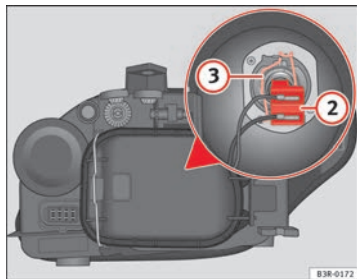

Fig. 195 Dipped beam headlights
- Pull the connector ⇒ fig. 195 ② from the bulb.
- Unclip the retainer spring ⇒ fig. 195 ③ pressing inwards to the right.